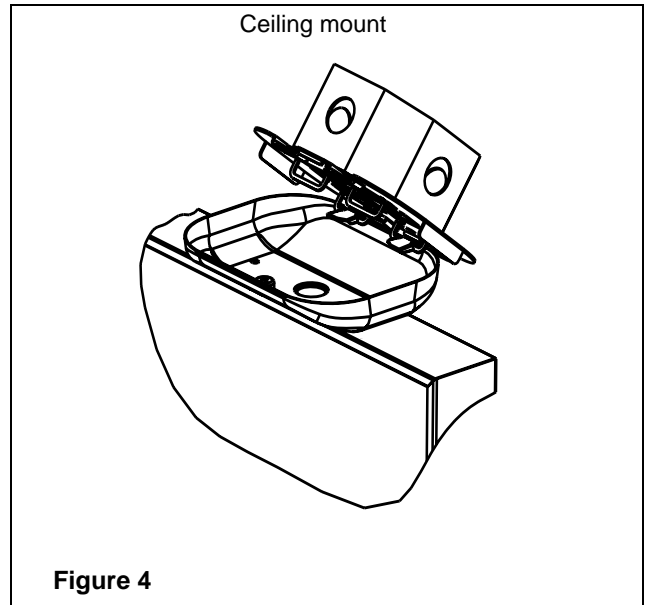

Figure 4
- f. Make the proper wire connections. The “Quick-install” canopy is equipped with ribs allowing you to hang the unit to the spider plate to facilitate wiring (See fig.4). Feed the excess wire into the junction box and secure the canopy to the junction box using the long screw provided(8).